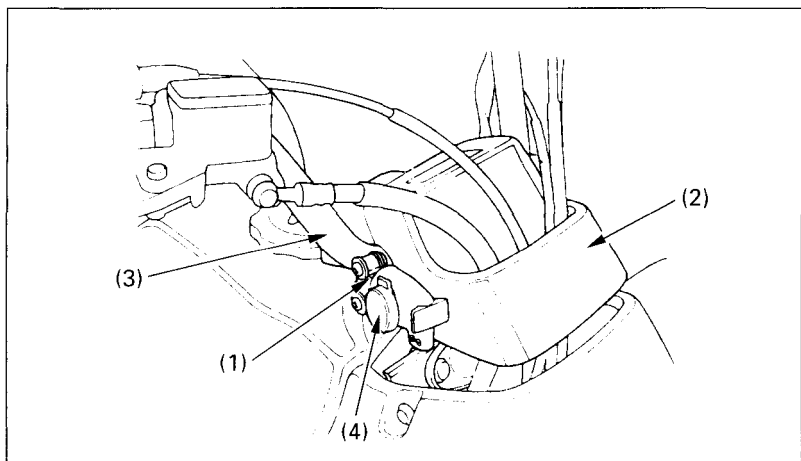

Fig. 2-24 (1) 12 V DC receptacle (3) Right handlebar
The DC receptacle (1) (Fig. 2-24) is attached to the right handlebar, near the handlebar cover (2). The receptacle provides 12 V DC power at a maximum of 180 watts (15 amps). If you exceed this limit, you may blow the fuse. (For information on fuses, and how to replace a fuse, see pages 115 – 116).
(2) Handlebar cover (4) Special DC plug
Electrical accessories may be connected to the receptacle by using the special DC plug (4) (Fig. 2-24) that comes attached to the receptacle. Be sure to use only accessories that are designed for 12 V DC power.
1. Remove the plug (4) from the receptacle (1) (Fig. 2-24).